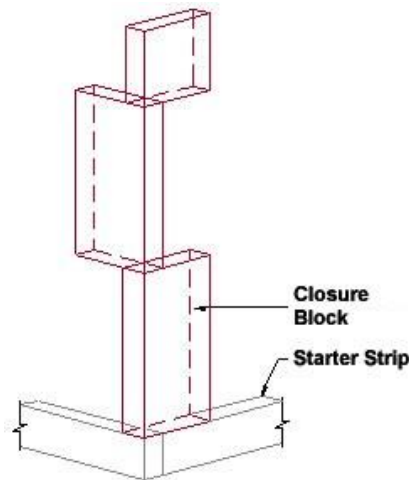

Fig. 26
- i. Install 6 in (152 mm) wide Closure Blocks around all openings and tops of compartments. Install 12 in (305 mm) wide Closure Blocks on alternating sides of outside corners (see Figure 26), at vertical compartment boundaries (see Section VIII.C), and vertical system terminations.
1. Install 12 in (305 mm) wide Closure Blocks on alternating sides of inside and outside corners as shown in Figure 26.